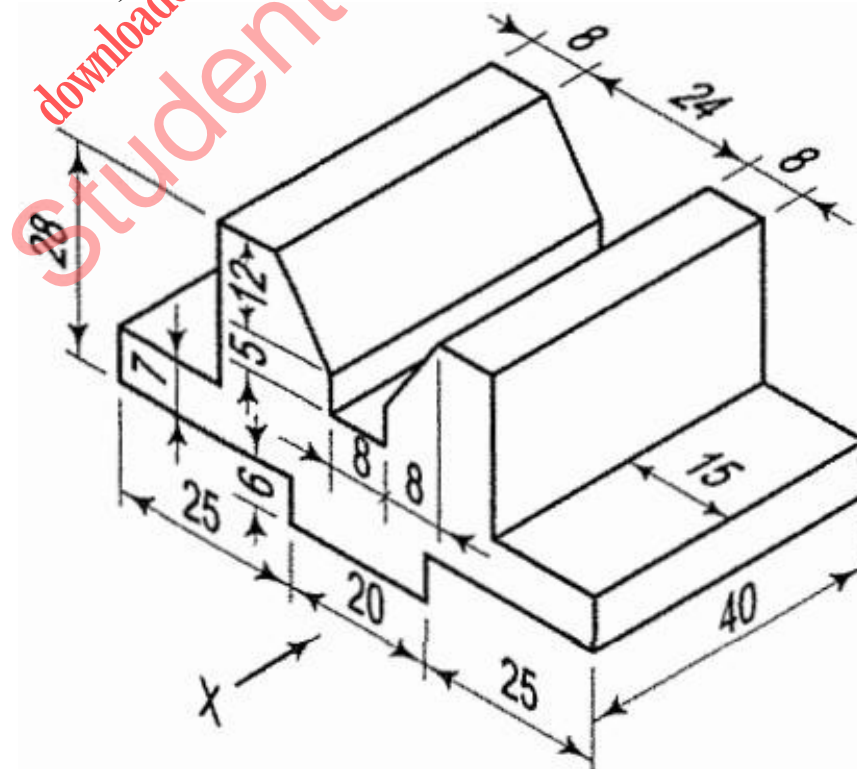

Figure: 2
6. Draw the orthographic projections of the machine part shown in figure 2. a) Front view